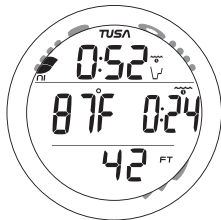

Fig. 112 - FREE DIVE MAIN
**Free Dive Main**, information includes (Fig. 112) -